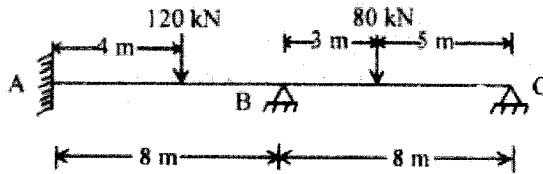

Fig. 3
- (c) Analyze the following continuous beam fig 3. using the strain energy method.